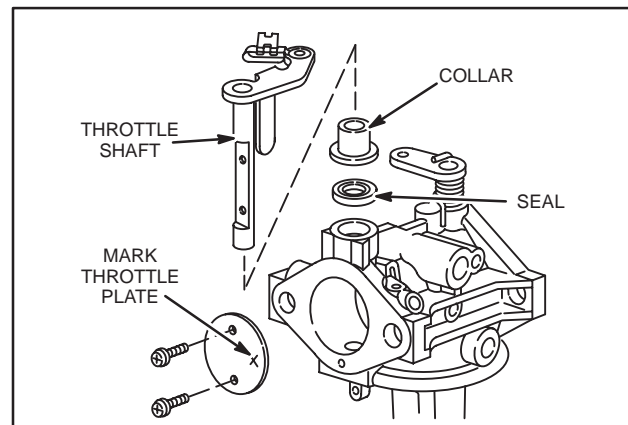

Fig. 12 – Removing Throttle Shaft
- 9 Remove two screws, throttle plate, throttle shaft with collar and seal, Fig. 12.